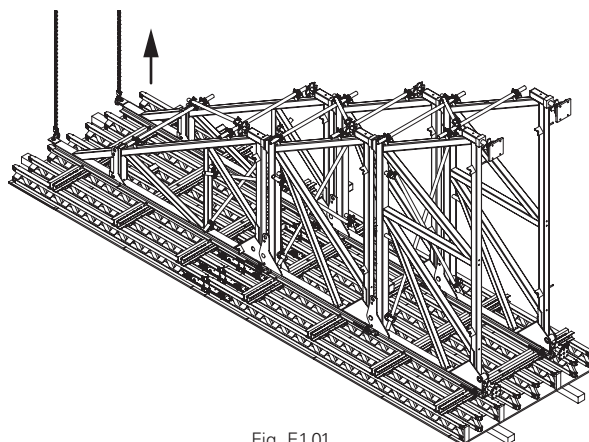

Fig. E1.01
1. Attach the movable unit to the crane (Fig. E1.01).